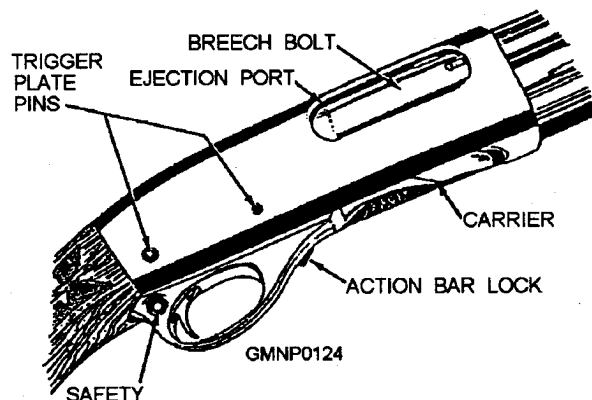

Figure 3-51.—Remington M870 receiver nomenclature.
**SAFETY.**— Before loading or unloading, push the safety (fig. 3-51) across the rear of the trigger, left to right, to the **SAFE** position (the red band on the safety will not show).
**SINGLE LOAD.**— Push the safety to the **SAFE** position. Press in the action bar lock (fig. 3-51) if the action is cocked and pull the fore-end fully to the rear. Place the shell into the open ejection port upon the downthrust carrier. Slide the fore-end toward the muzzle to load the shell into the barrel chamber and leek the action closed